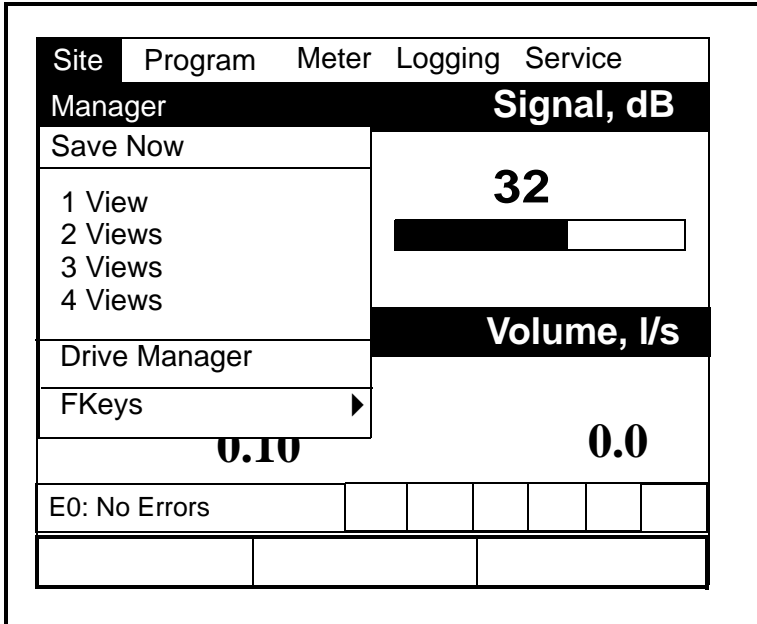

Figure 5: The Site Menu
1. To open the *Site Menu*, press the [MENU] key at the lower right of the PT878 keypad. Then press [ENTER]. The screen appears similar to Figure 5 below.
The PT878 can display one to four different measurement parameters simultaneously. However, sometimes you might wish to display only one or two parameters. To change the number of open display windows from within the *Site Menu* (shown in Figure 5 on the previous page), use the [▼] or [▲] arrow keys to move to the desired number of views (1 View, 2 Views, etc.) Press [ENTER]. The screen displays the desired number of windows.